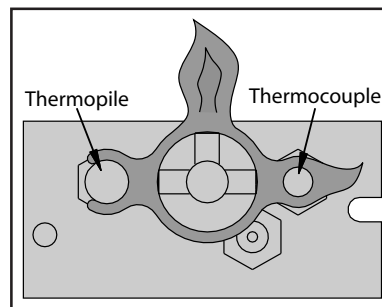
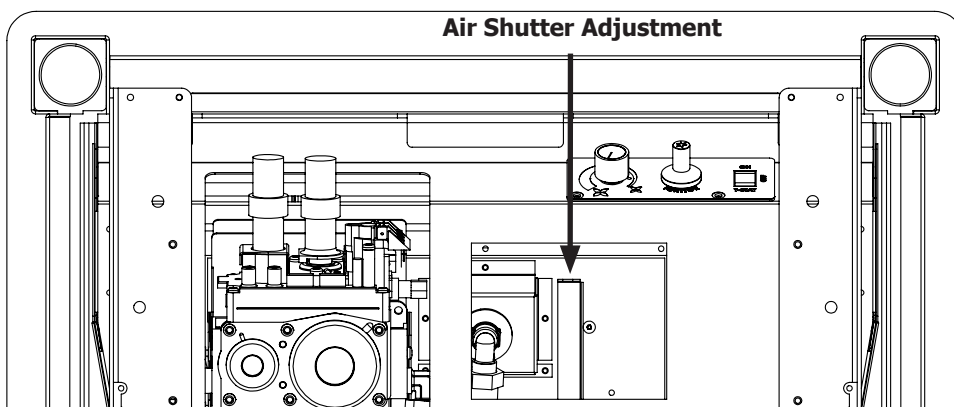
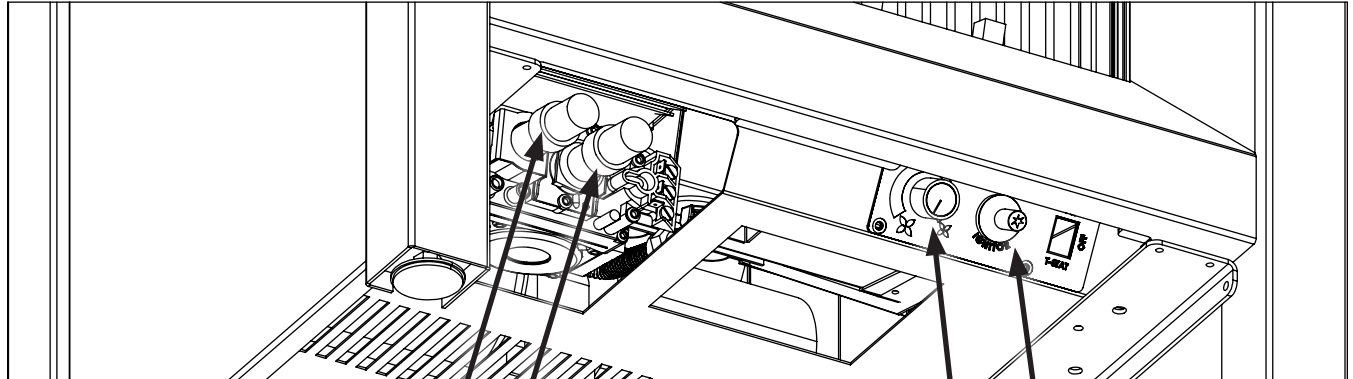

Figure 3. Pilot Flame
Figure 4. Air shutter adjustment lever.
Figure 5. Control Panel
1. Turn off the gas to the fireplace. **If not recently done, remove the glass and let the unit air out for at least five (5) minutes to clear out any gas.** Turn on gas to the appliance.
2. Start the pilot by pressing the gas control knob (Figure 5) and turning it to PILOT (counter clockwise). You will feel the knob depress in PILOT. While holding the gas control knob in, press the piezo ignitor several times until the pilot light starts. Hold the gas control knob in for 30 seconds, the pilot should now stay lit with out depressing it. Check that the pilot has fully engulfed the thermocouple assembly (see Figure 3).
The air shutter adjustment lever is located on the right hand side of the venturi box (see Figure 4) . To adjust the air shutter reach through the rectangle shown in the cabinet bottom. The air shutter allows the amount of air coming into the firebox to be adjusted in order to accommodate different climates and venting arrangements. Start the pilot and then the burner. Make sure the pilot flame is burning normally and none of the burner ports are plugged. Let the fireplace burn for roughly fifteen minutes and then examine the flames, compare the flames to Figure 41.
The S20 controls (Figure 5) is located at the front of the unit (Figure 4). For easier access to controls the face can be removed. To light the burner correctly follow the steps below:
The blower will come on only when the fireplace is up to temperature (approximately 15 minutes). The speed of the fan can be changed by turning the fan control knob. The blower will continue to operate automatically after the unit has been shut off (approximately 25 minutes). To turn the blower off, turn the fan control knob COUNTER CLOCKWISE until it “clicks” off (Figure 5).